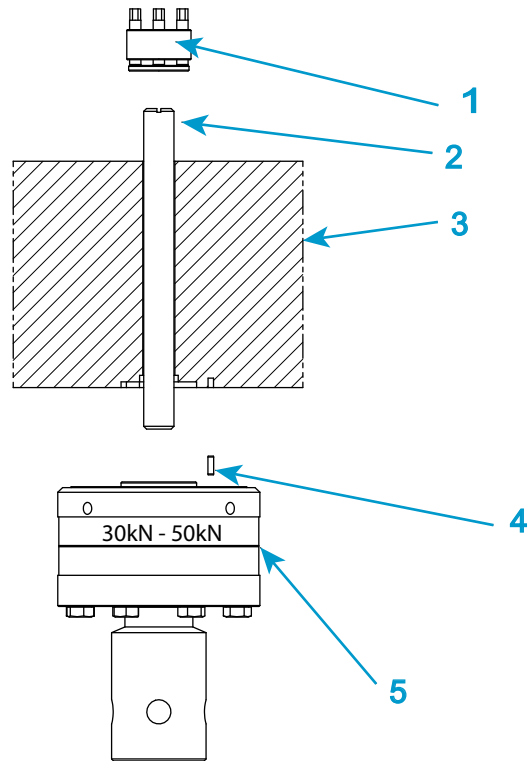

Figure 19. Install a 2530 series load cell - capacities 30kN and 50kN
Legend for Figure 19
1. Refer to Figure 19 on page 84 and its associated legend.